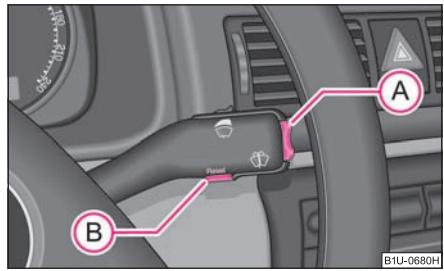

Fig. 25 Information display:
- You can activate the menu by pressing the rocker switch (A) ⇒ fig. 25 for more than 1 second.
- You can select individual menu points by means of the rocker switch (A). The selected information is displayed after pressing the button (B) for a short time or after releasing the rocker switch (A) (after about 4 seconds).
The error messages are faded out after 10 seconds or by actuating the rocker switch  ⇒ page 23, fig. 25 and are stored under the information **CAR STATUS**.